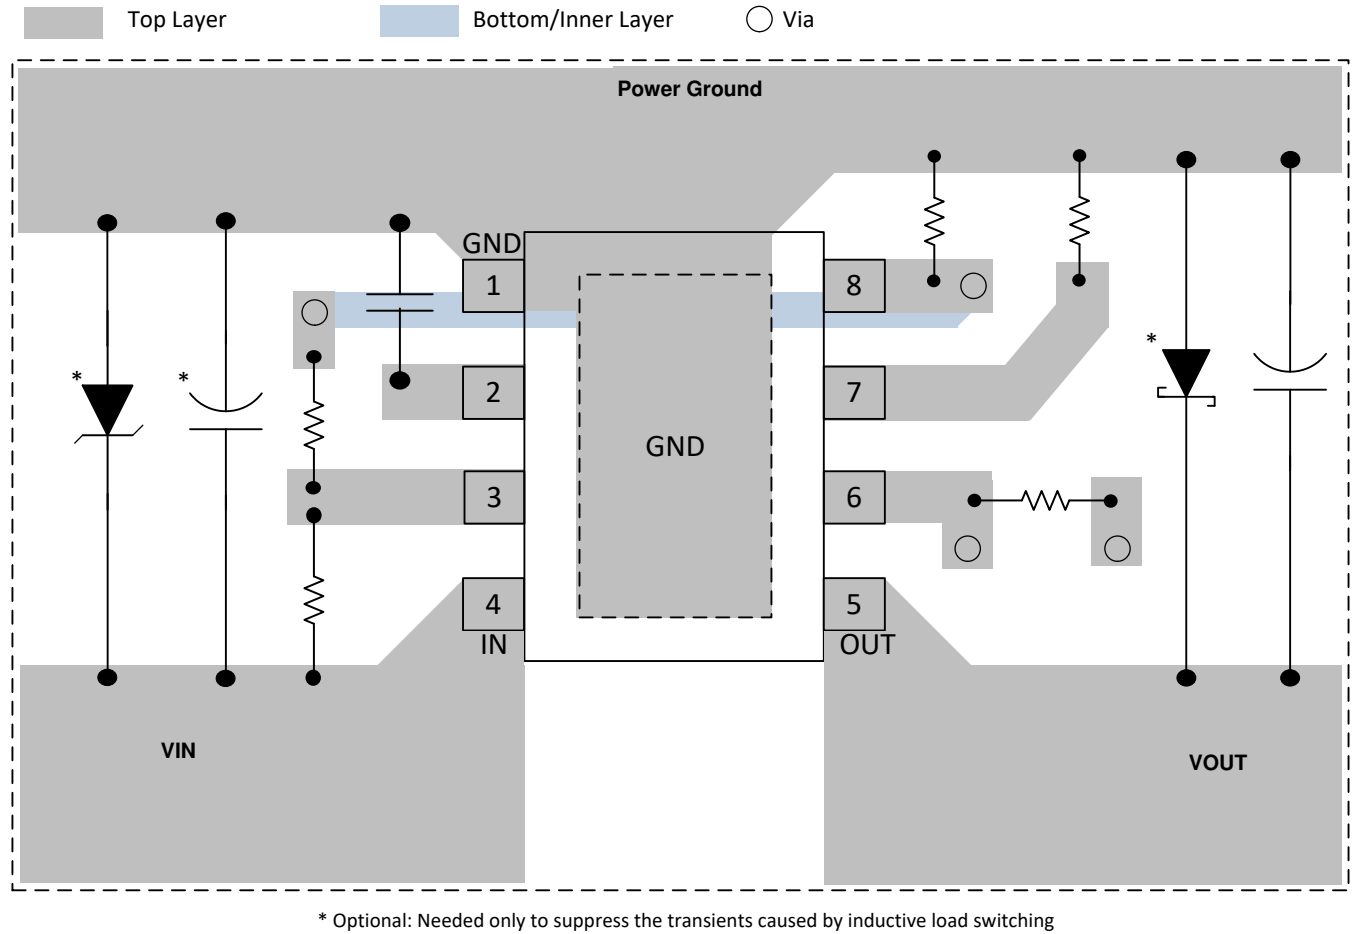

图 63. TPS2596xx Layout Example
- The optimal placement of the decoupling capacitor is closest to the IN and GND terminals of the device. Care must be taken to minimize the loop area formed by the bypass-capacitor connection, the IN terminal, and the GND terminal of the IC. See Figure 63 for a PCB layout example.
- Obtaining acceptable performance with alternate layout schemes is possible. The Layout Example shown in Figure 63 has been shown to produce good results and is intended as a guideline.